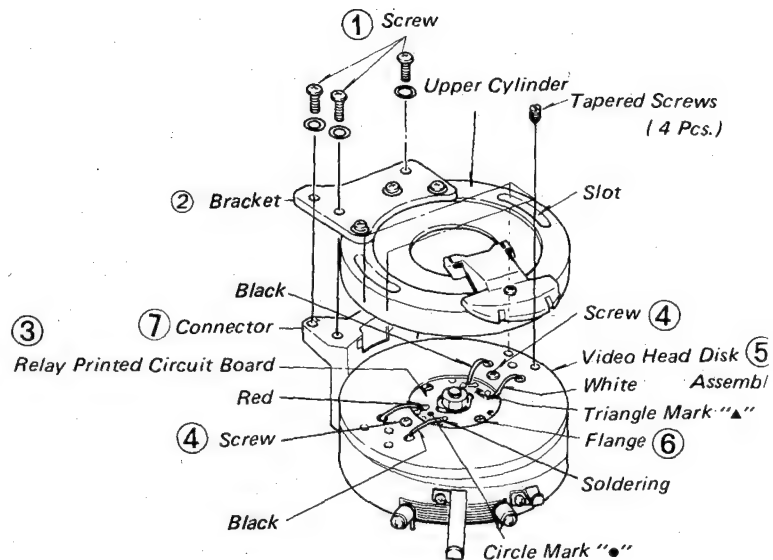

Fig. 5-66 Video Head Disk Assembly Replacement.
Replacement (see Fig. 5-66)
1. Remove the three screws ① holding the bracket ② combined with the upper cylinder.
2. Take out the bracket ② together with the upper cylinder.
3. Unsolder the four video head wires from the intermediate board ③.
4. Remove the two screws ④ holding the video head disk assembly ⑤.
5. Take out the video head disk assembly ⑤, leaving the spacers if any on the flange ⑥.
6. Wipe the bottom of the new video head disk assembly and the top of the flange ⑥ with a cloth dampened in isopropyl alcohol; also, wipe the top of the spacers if any.
7. Position the video head disk assembly ⑤ with its red wire at the circle mark (O).
8. Lightly tighten the screw ④ to temporarily hold the video head disk assembly ⑤ with two fingers handling a screwdriver. (The screws should be so tightened to allow eccentricity adjustment.)
Precaution: When removing or installing the video head disk assembly, never touch the video heads on the connector ⑦ (see Fig. 5-66). Full care should be observed not to touch any video head disk by hand as it could be damaged.